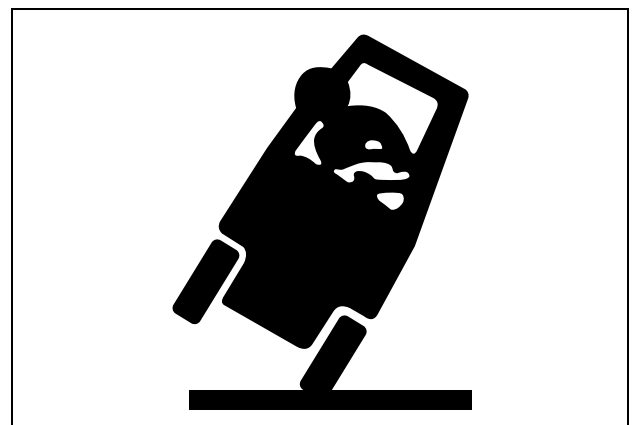

Figure 1-5: Lateral Tip
- the truck is turned sharply while traveling rapidly in either direction, with or without a load. An unloaded truck can tip easier than a loaded truck (with the load lowered). See Figure 1-5.